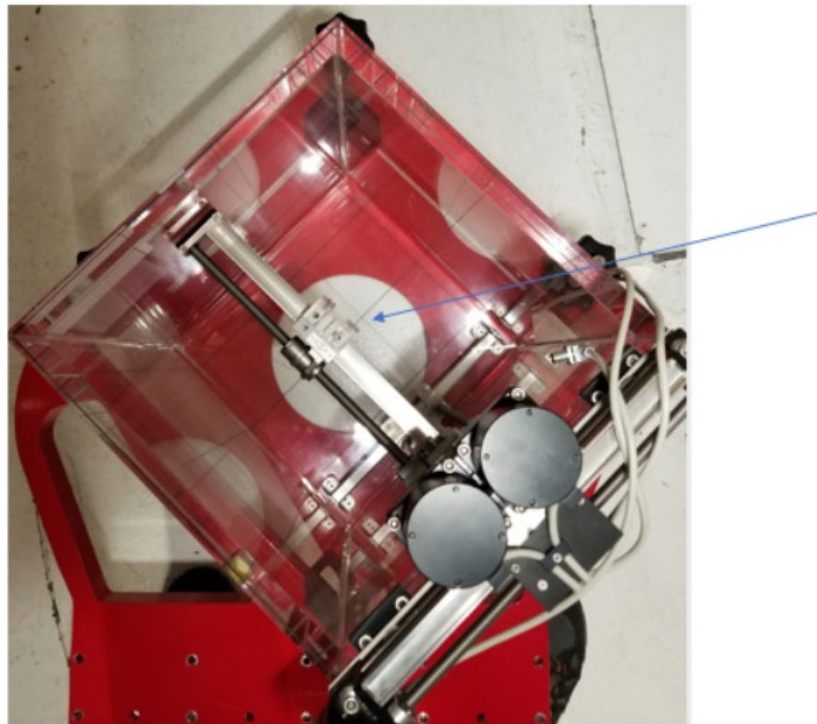

Figure 1-8. Center of the Scanning Area
8. Use PTW Pendant to move the pointing device close to the center of the scanning area, where the arrow point to crossline (see Figure 1-8). Lower the pointing device in +B direction to below 1/3 from the top of the tank. Then set it to a new zero position on Pendant.